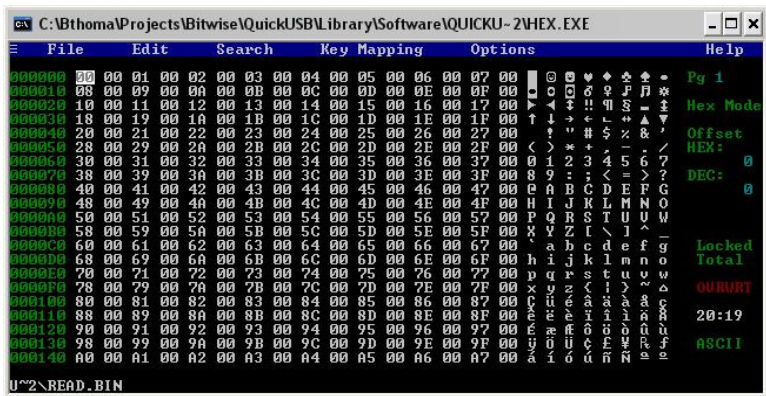

Figure 4 – Hex Editor with Incrementing Count
- d. Under the “Data” section, click “Edit”. This will open the file in the hex editor program included with QuickUSB. The hex editor will display the binary file “read.bin” that the QuickUSB Diagnostics program wrote the count to after reading it from the FPGA. Verify that there is an incrementing count as shown in Figure 4.
- e. Under the “Data” section, click “Edit”. This will open the file in the hex editor program included with QuickUSB. The hex editor will display the binary file “read.bin” that the QuickUSB Diagnostics program wrote the count to after reading it from the FPGA. Verify that there is an incrementing count as shown in Figure 4.